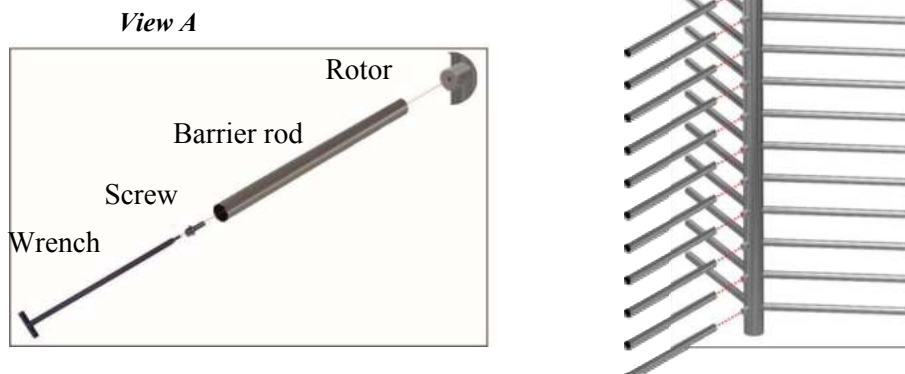

Fig.6 – Assembly of the turnstile major components and installation of barrier rods
2.2.4 The sequence of assembly of the major components of the full-height turnstile "PUSH&GO" when the turnstile is delivered by components (See Figure 6):